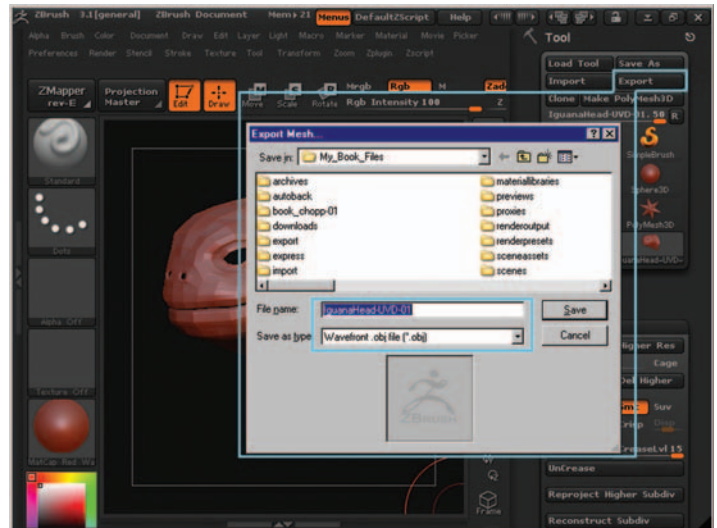

Figure 11.41 Export button and dialog box.
6. The ZBrush mesh must be exported. It will be imported back into 3ds Max as an .obj model to ensure exact vertex count. Under the Tool rollout, click on the word “Export.” You will be presented with an Export Mesh dialog box. Name the mesh something descriptive and save it as an .obj file to the desired target directory. Figure 11.41 shows the Export button and the Export Mesh dialog box.